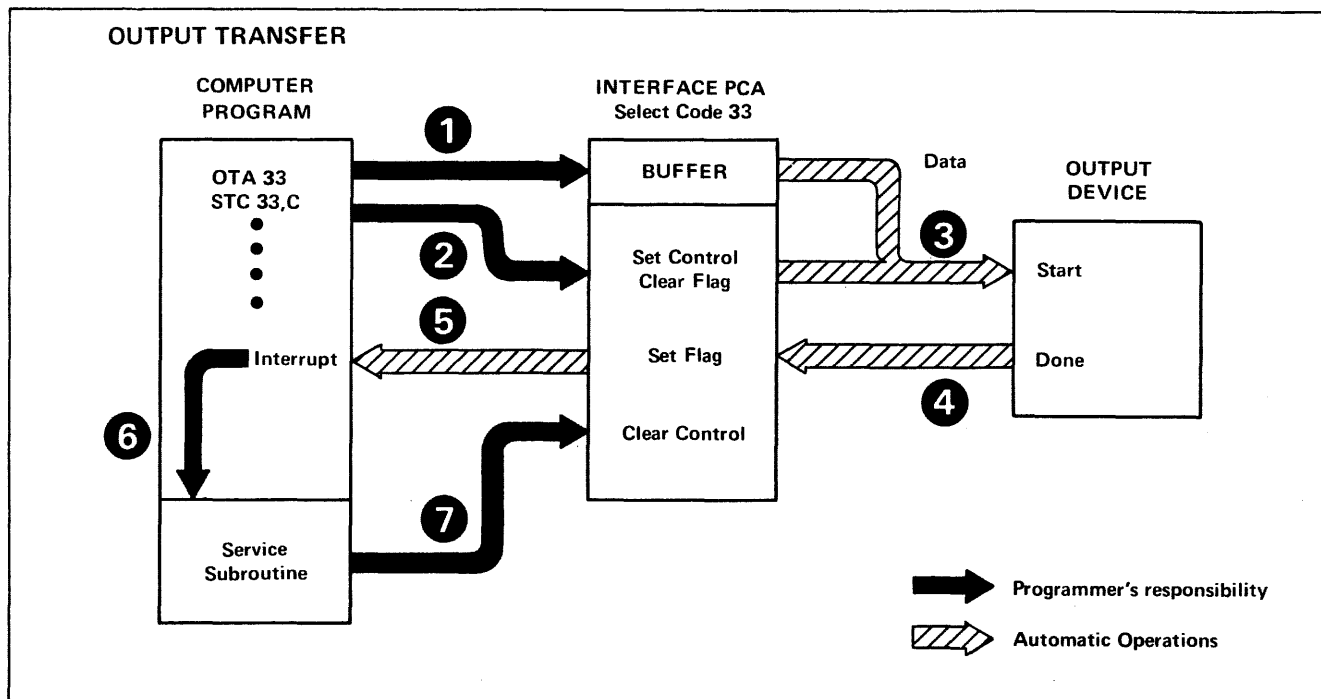

Figure 2-4. Output Data Transfer
Figure 2-4 illustrates the sequence of operations for an output transfer. Again note the distinction between programmed and automatic operations. It is assumed that the data to be transferred has been loaded into the A-register and is in a form suitable for output. The interface PCA is assumed to be installed in the slot for select code 33. The operation begins with a programmed instruction to transfer the data from the A-register to the interface buffer (1). The instruction in this example is OTA 33. This is followed (2) by an instruction to set control and clear flag (STC 33,C). Setting the control bit causes the interface PCA to read out the buffer data to the device and to issue a start command (3). The device proceeds to write data, and when it has finished the device sends a signal (Done) back to the interface PCA (4). At the interface PCA the